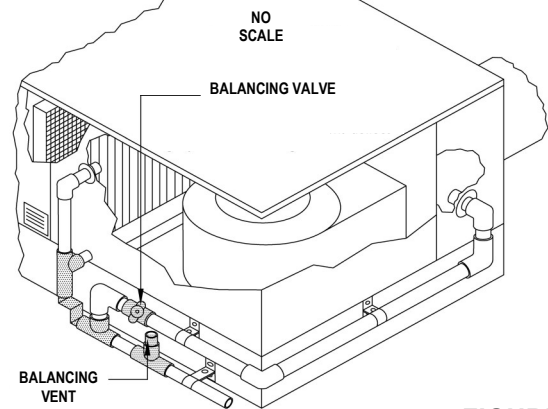

FIGURE 3c
4. This model custom-built CostGard™ Condensate Drain Seal will operate over a wide range of pressure conditions in the drain pan compartment and the supply air plenum or duct. All Commercial models included an orifice or pneumatic balancing valve installed in the air supply pipe, as shown in Figure 3c.
Install the Balancing Valve in the closed position, as shown in Figure 3c. Keep it closed during the test and balancing operation. The system will drain successfully when the valve is closed.